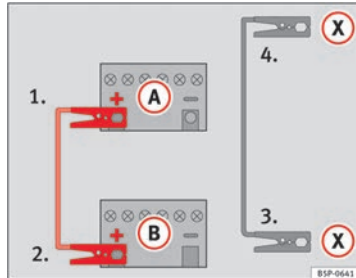

Fig. 160 Diagram of connections for vehicles with Start-Stop system
- Connect one end of the *red* jump lead to the positive \oplus terminal of the vehicle with the flat battery $\textcircled{A} \Rightarrow$ Fig. 160.
- Connect one end of the *black* jump lead \textcircled{X} to a suitable ground terminal, a solid piece of metal in the engine block, or to the engine block \Rightarrow Fig. 160.